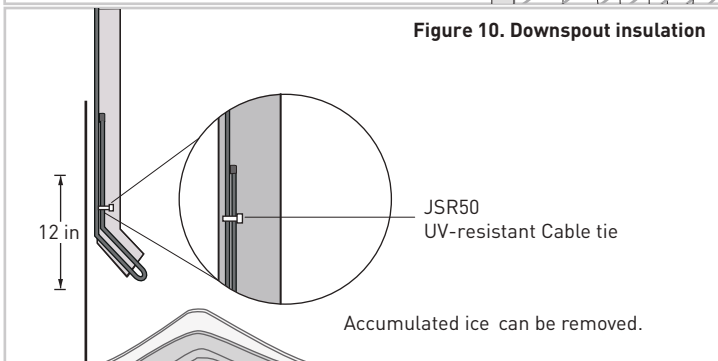

Figure 10. Downspout insulation
- Run heating cable along gutters and into downspouts, ending below the freezing level. Permanent attachment of the cable to the gutter bottom is not necessary. Loop the heating cable in downspouts. Do not leave the end of the JHSF1 in air at the end of the downspout as shown in Figure 10.